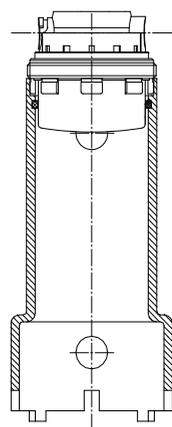

Fig. 4
- 1.10. Insert the measurement capsule into the installation wrench by the claws (figure 4).